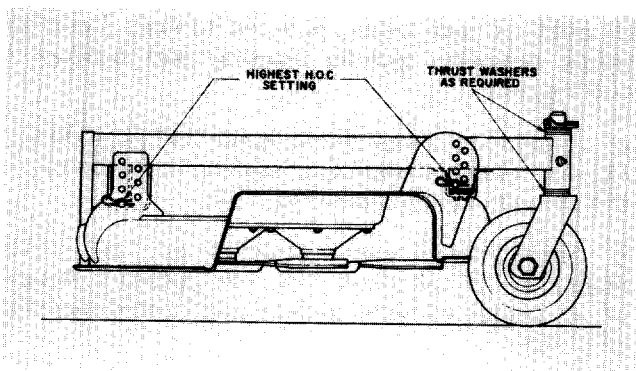

Figure 16
1. Check to make sure front height-of-cut pins are resting properly on frame cushions (Fig. 16).
2. Raise height-of-cut to the 3½" (89 mm) or 4 in. (102 mm) position (Fig. 16): refer to Adjusting Height-Of-Cut, page 7.
A. Cutting units usually operated at 1 to 2 in. (25 to 51 mm) height-of-cut should have the low side of the cutting unit raised. Remove the lynch pin securing castor wheel on low end (Fig. 16) and remove castor assembly.